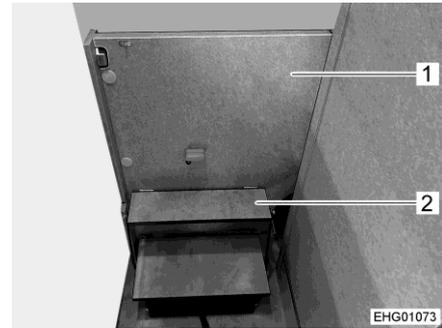

Fig. 60 Access assistance, unfolded
- Pull the partition wall (Fig. 60,1) with the access assistance (Fig. 60,2) out of the storage compartment.
- Push the partition wall (Fig. 60,1) with the access assistance (Fig. 60,2) into the storage compartment.